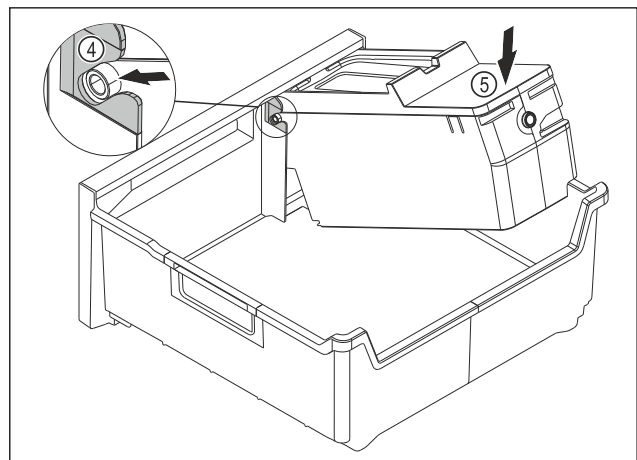

Fig. 167
- ▶ Installing the EasyTwist-Ice body: Insert the axes of the EasyTwist-Ice body into the guides Fig. 167 (4).
- ▶ Press down the EasyTwist-Ice body Fig. 167 (5) at the rear.